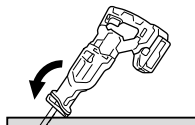

Fig. 28
- (2) Raise the handle slowly and cut in with the saw blade little by little (**Fig. 28, Fig. 31**).